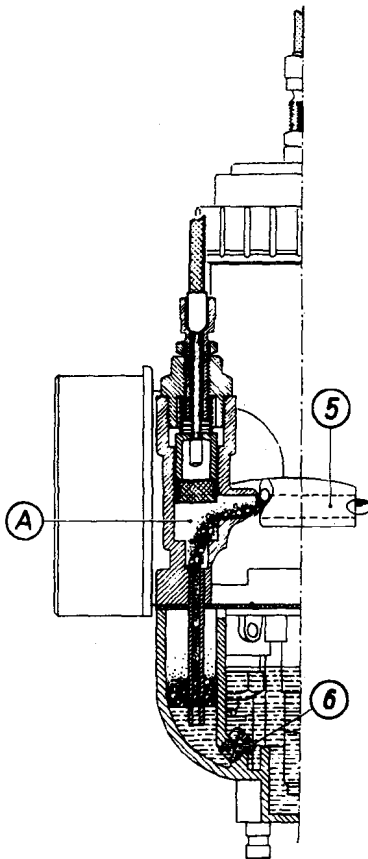

Fig. 191. Starting piston lifted (cold starting)
The cold starting device is shown in Fig. 189 (driving position, lever for starting carburettor at the handle-bars contacts the front stop) and in Fig. 191 (cold starting, lever for starting carburettor at the handle-bars is drawn towards the driver).
When the lever for the starting carburettor at the handle-bars is set to cold starting position (the lever is drawn towards the driver), then the starting piston with packing is lifted and, thus, the upper opening of the starting mixing tube (A), Fig. 191, is released.
The fuel in the starting mixing tube is sucked up when the engine is started and then passes through the starting duct (5), Fig. 191, which ends in the suction port after the throttle valve.
The lower opening of the starting mixing tube ends in a separate space, the starting compartment, which is connected with the compartment for the central float through the starting jet (6), Fig. 191.